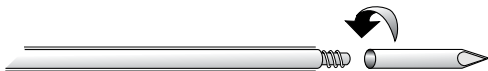

Figure 12. Attach metal tunneling tip.
1. Attach the metal tunneling tip to the tunneling tool (Figure 12) and remove its protective sheath.